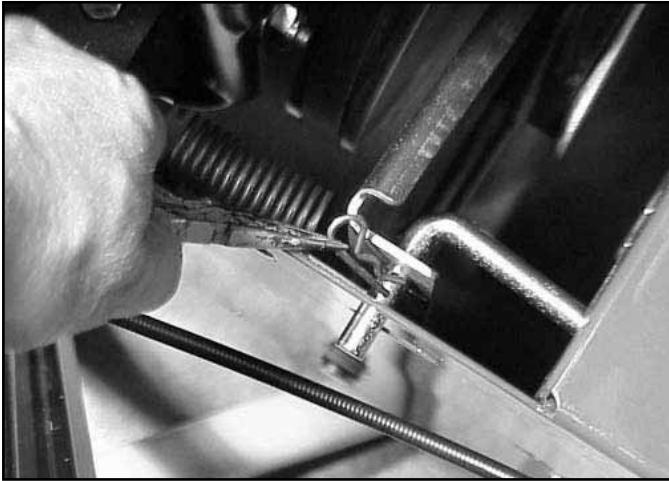

Fig 138
21. Remove hairpin cotter connecting speed control linkage to the pivot pulley plate assembly (Fig. 138).